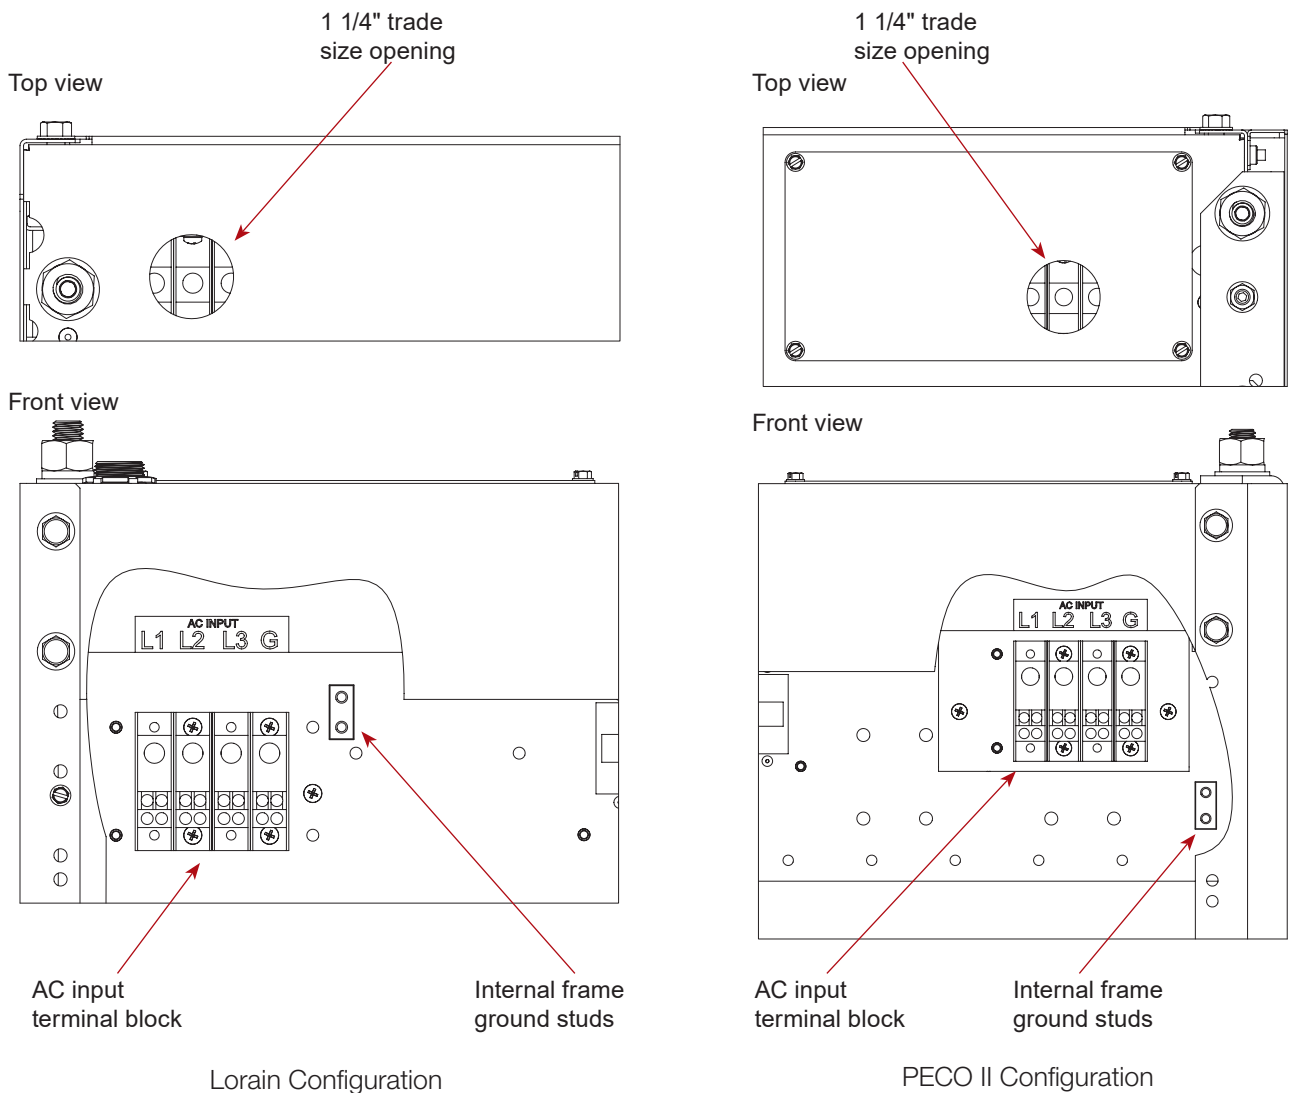

Figure 24 — AC and Frame Ground Connections
1. Locate the two 1/4" – 20 studs in the masked area next to the AC input terminal block. See Figure 24.
3. Locate the hole sized for a 1-1/4" trade size fitting directly above the AC connection terminal block. See Figure 24.